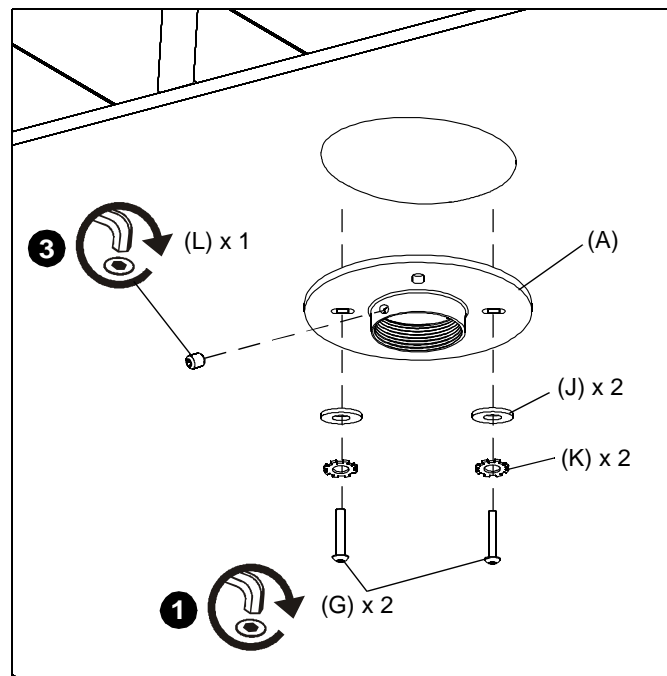

Figure 4
1. Install ceiling plate (A) to junction box assembly (B) using two 10-32 x 1-1/8" button head cap screws (G), two #10 lockwashers (K) and two #10 flat washers (J). (See Figure 4)
3. Secure pipe using one 10-24 x 1/4" set screw (L). (See Figure 4)